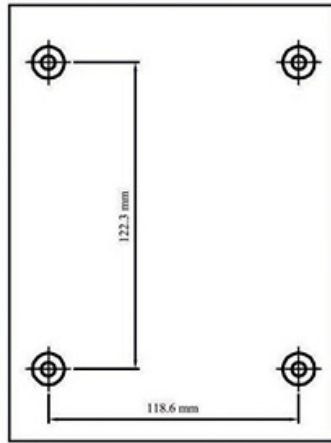
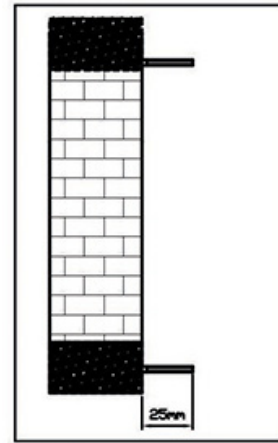

Fig:1
Fig:2
1. Fix the Rag Bolts supplied with the meter on the wall according to measurements (See Figure 1). At least 25mm (1 Inch) threaded part of Rag Bolts should remain outside the mounting surface (see Figure 2).